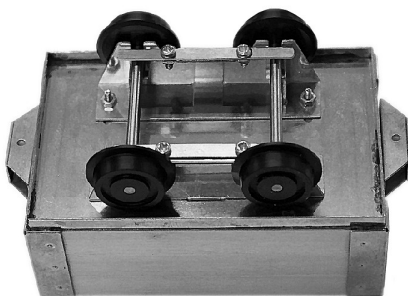

Fig 7
Once all painting is complete, fit the wheel sets as shown in fig 7, using the two keeper plates (item 6) and self tapping screws. It may be necessary to clean out with a small file, the slots in the under frames into which the axles fit. Slide a brass thrust washer to each end of the axle so that they sit between the back of the wheel and the outside face of the under frame when fitted.